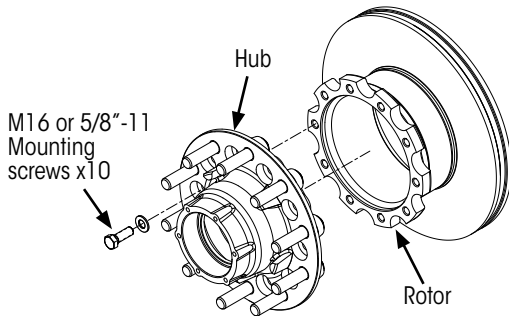

Figure 3: Flange mounted hub & U-shaped rotor assembly
6. Properly constrain assembly and tighten mounting screws, in the sequence shown in Figure 3, to 220±10 ft. lbs. (300±10 Nm) of torque.